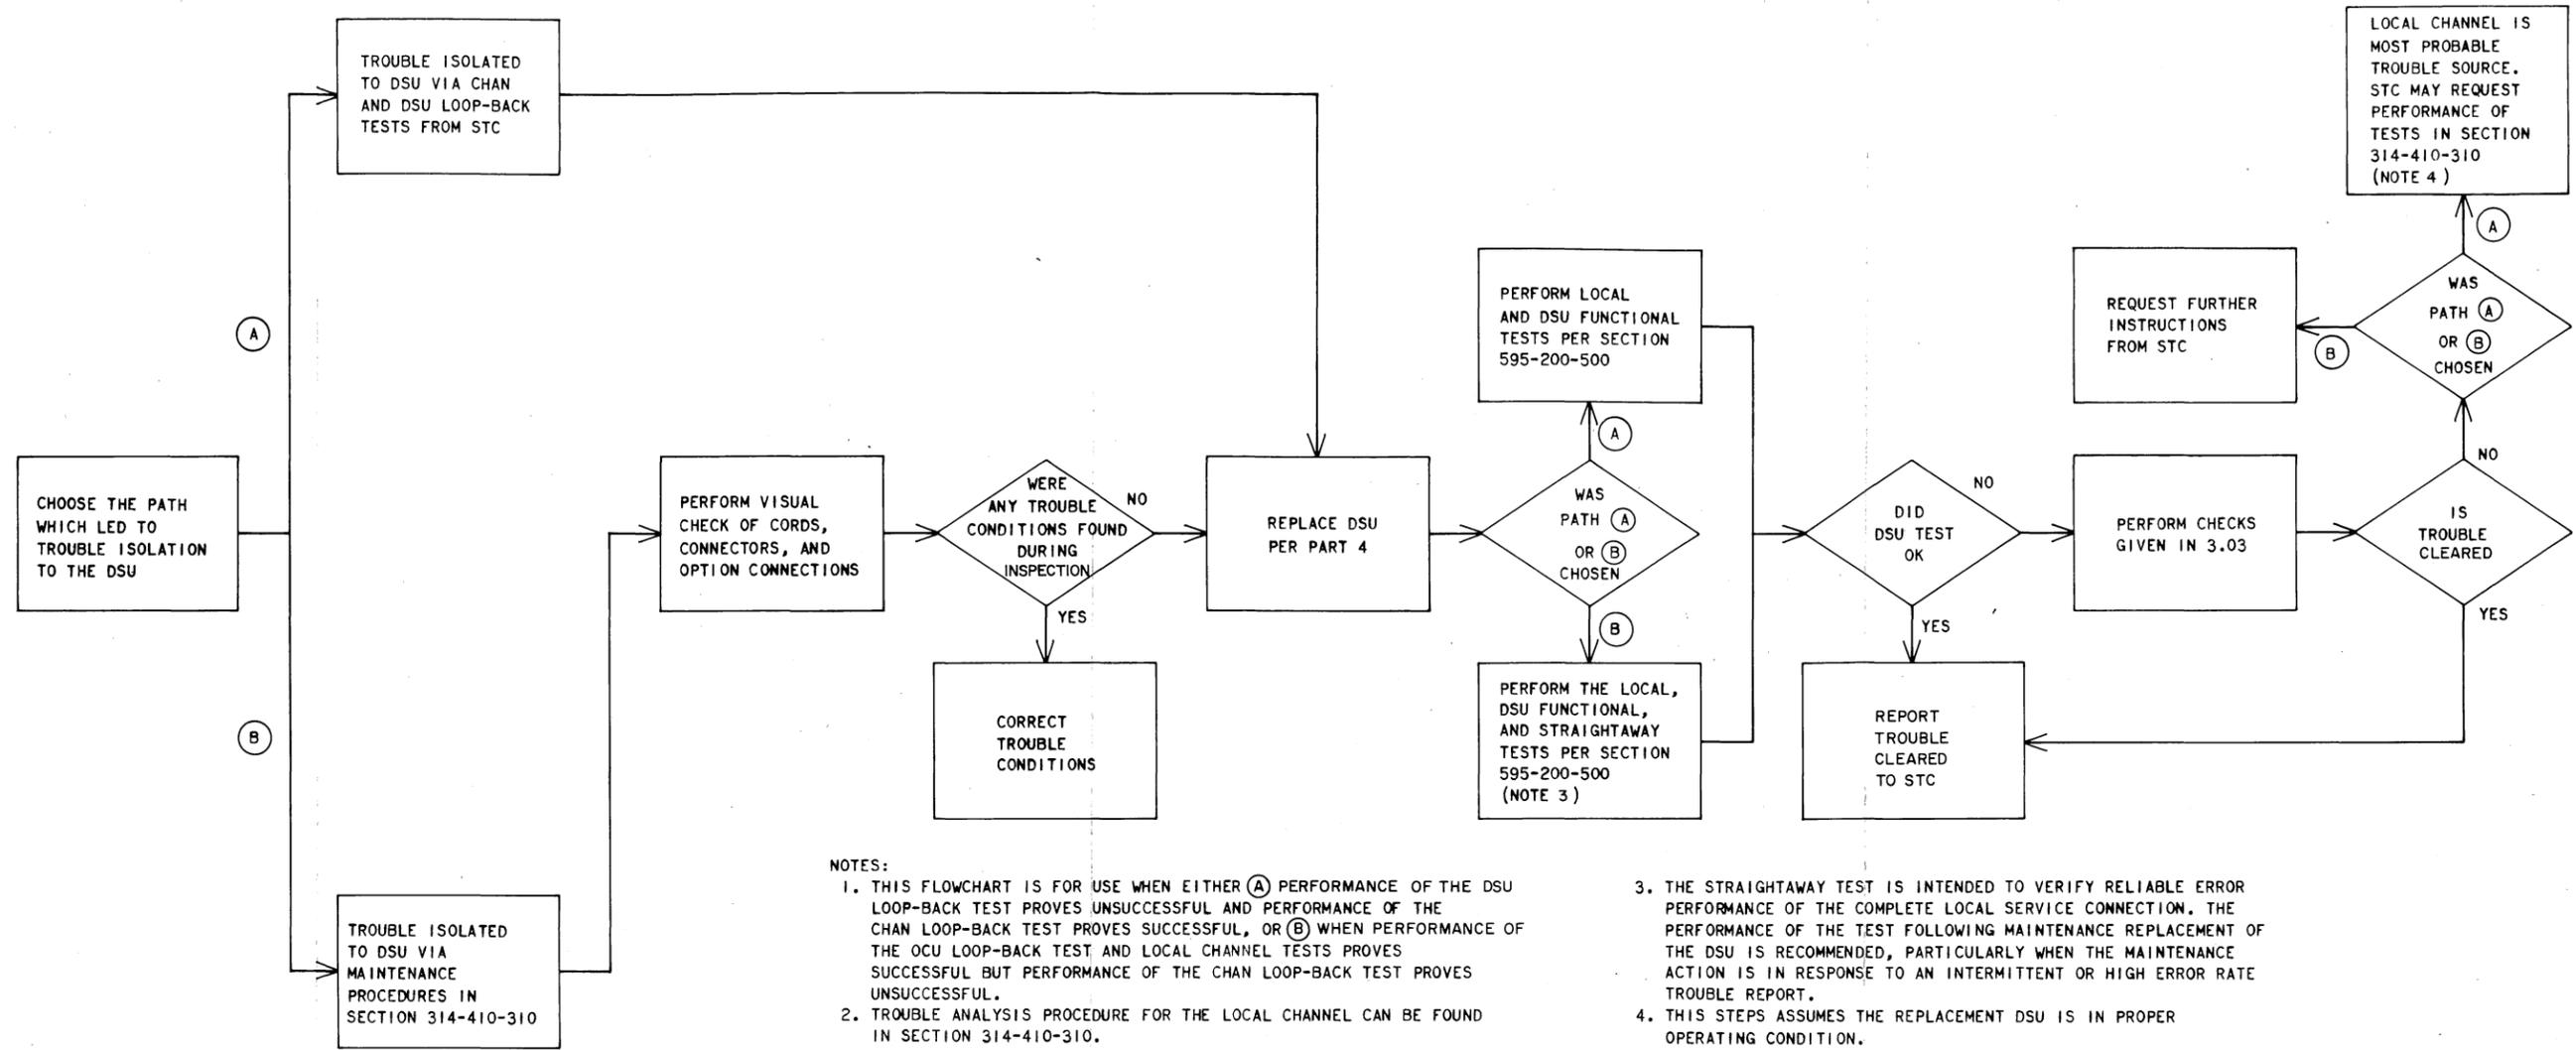

Fig. 1—Trouble-Clearing Procedure for 500A-Type DSU
3.01 When investigating a trouble report, proceed as indicated in Fig. 1 and the following text. Upon arrival at the customer location, the telco employee should make a quick visual inspection of the DSU. Verify that the PWR light-emitting diode (LED) is illuminated and that the switch on the faceplate is in the center position. Check also for other possible causes of trouble, such as cable and connector defects. If this initial check does not reveal a trouble condition, the DSU is immediately assumed to be defective and must be replaced as described in Part 4 of this section.